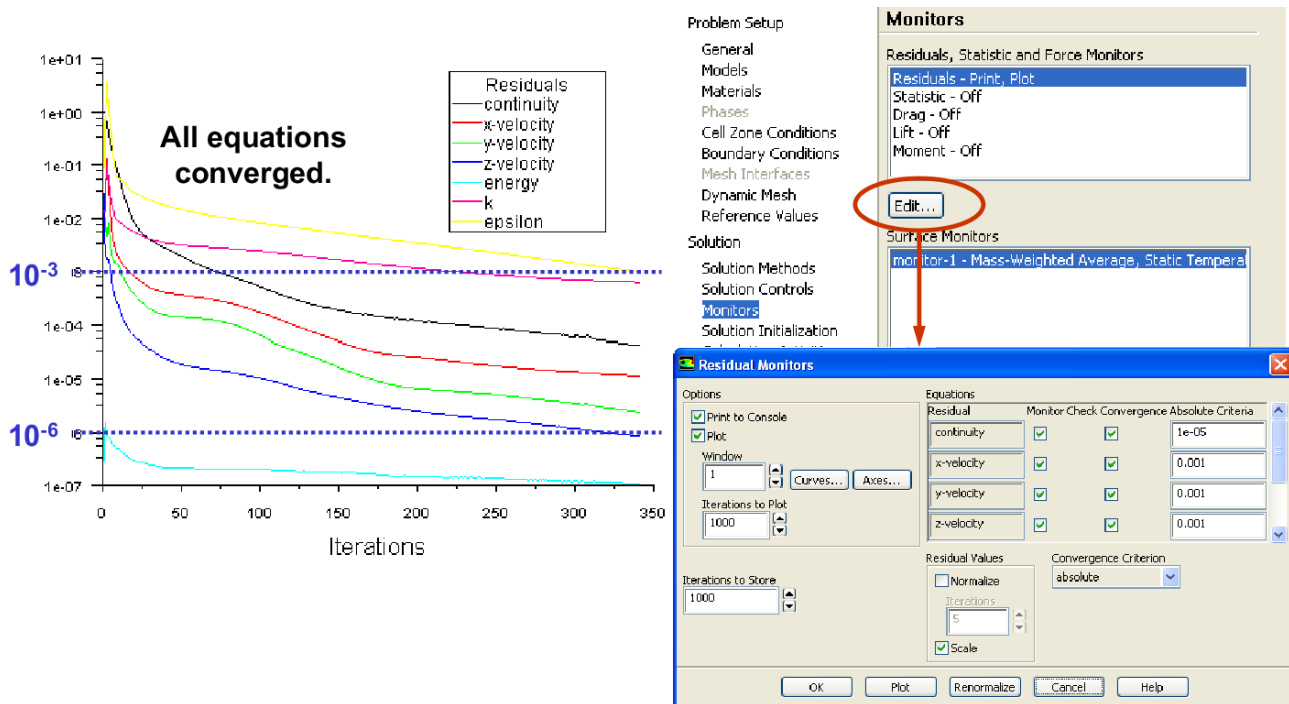

Figure 14: Example of residual monitoring plot for a non-isothermal turbulent flow computation.
During the simulation, Fluent allows you to monitor the evolution of the residual R^k in a graphic window as in Fig. 14. The monitoring parameters of each flow equations are set in the Monitors task page. By default, Fluent defines the Absolute Criteria of (3) as $\epsilon = 10^{-3}$ for all equations¹⁹. Often in practical applications, this condition is not sufficiently restrictive to give an accurate solution. To change this criterion, click on Edit... in the Residuals panel (see Fig. 14).